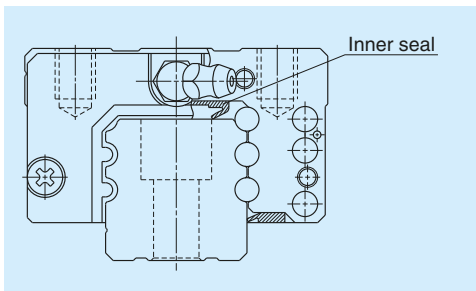

Fig. 7.6 Inner seal when installed
(4) Inner seal
- The end seal installed on both ends of a slide cannot stop all contaminants, though the missed amount is negligible. An inner seal protects the rolling contact surface from such contaminants which entered inside the slide (**Fig. 7.6**).